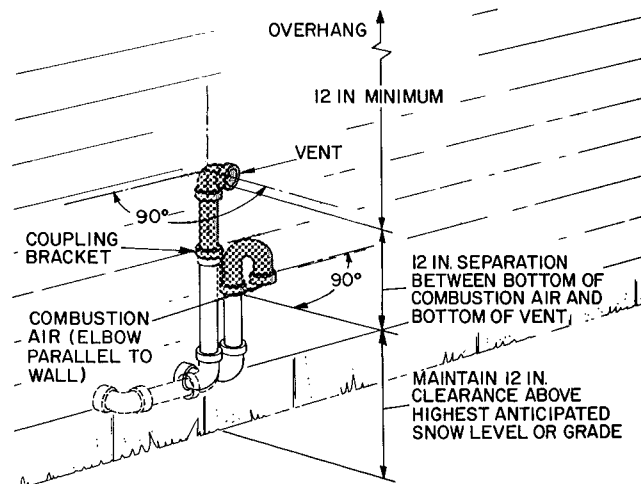

**Fig. 5 — Sidewall Vent Terminal Installation
Install kit as follows when combustion-air and vent pipes exit through sidewall less than 12 in. above highest anticipated snow level or grade (Fig. 5):
NOTE: The solid-line arrangement in Fig. 5 is preferred. The dashed-line arrangement shown is an option for the vent pipe only.
4. Loosely install U-fitting and bracket as shown in Fig. 5. Position U-fitting so that open end is against structure wall.
5. Loosely install vent-pipe assembly in coupling as shown in Fig. 5.
6. Check required dimensions as shown in Fig. 5.
8. Install bracket as shown in Fig. 5.